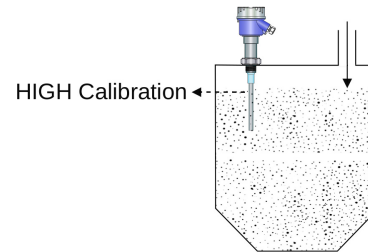

Figure 17: High Calibration
2. **High Calibration** For High Calibration, fill the tank with the application material such that the Casper's probe is completely covered with the material as shown in Figure 17 and follow the instructions given in the section Calibration for Conductive Material.